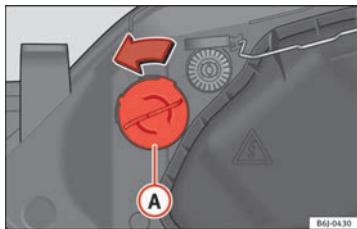

Fig. 170 Turn signal light.
- Turn bulb holder ⇒ Fig. 170 -- to the left and pull.